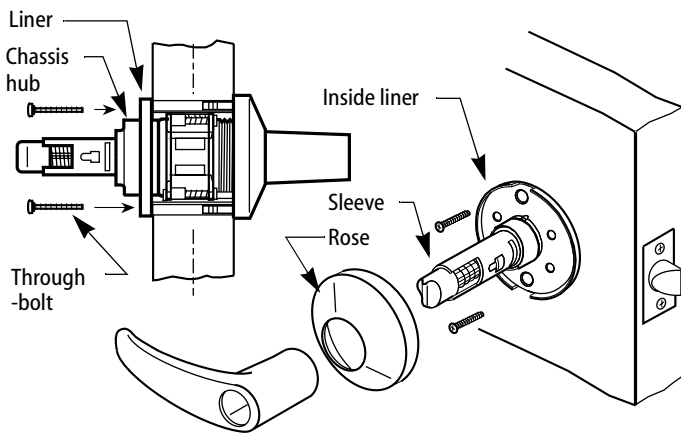

Figure 6
- 2 Install through-bolts through the liner and door in the top and bottom holes (see Figure 6).